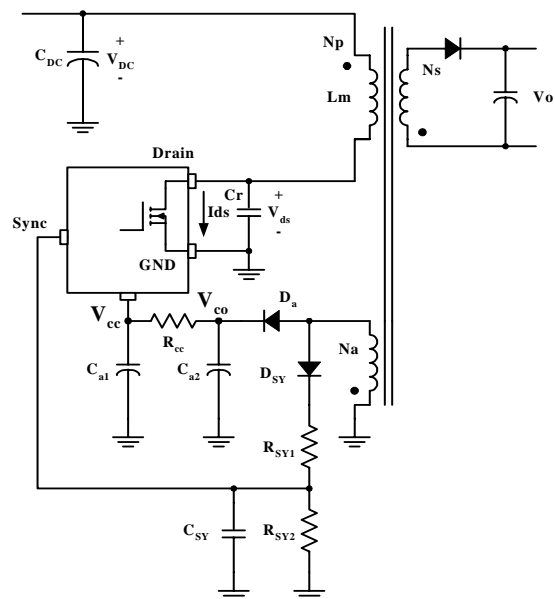
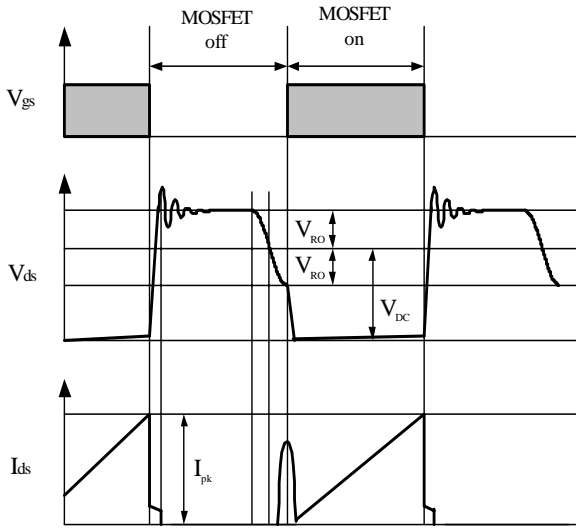
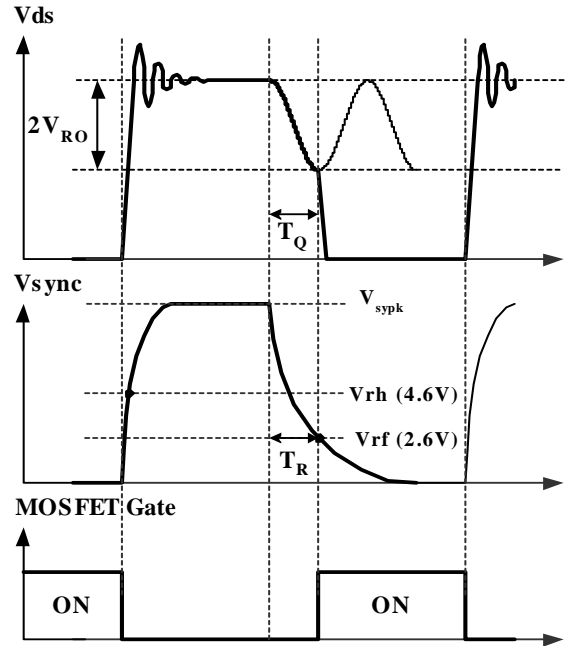

Figure 6. Synchronization circuit
Figure 7. Quasi-resonant operation waveforms
Figure 8. Normal quasi-resonant operation waveforms
2. Synchronization : FSCQ0765RT employs quasi-resonant switching technique to minimize the switching noise and loss. In this technique, a capacitor (Cr) is added between the MOSFET drain and source as shown in Figure 6. The basic waveforms of quasi-resonant converter are shown in Figure 7. The external capacitor lowers the rising slope of drain voltage to reduce the EMI caused when the MOSFET turns off. In order to minimize the MOSFET switching loss, the MOSFET should be turned on when the drain voltage reaches its minimum value as shown in Figure 7.
The minimum drain voltage is indirectly detected by monitoring the Vcc winding voltage as shown in Figure 6 and 8. The voltage divider R_{SY1} and R_{SY2} should be chosen so that the peak voltage of sync signal (V_{sypk}) is lower than the OVP voltage (12V) in order to avoid triggering OVP in normal operation. It is typical to set V_{sypk} to be lower than OVP voltage by 3-4 V. In order to detect the optimum time to turn on MOSFET, the sync capacitor (C_{SY}) should be determined so that T_R is the same with T_Q as shown in Figure 8. The T_R and T_Q are given as, respectively